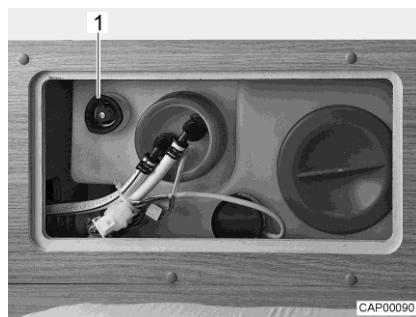

Fig. 69 Water tank with rotary handle
- Turn the rotary handle (Fig. 69,1) on the water tank in a clockwise direction as far as it will go.
- Turn the rotary handle (Fig. 69,1) on the water tank in an anticlockwise direction as far as it will go. Excess water will drain away leaving approx. 20 litres in the tank.